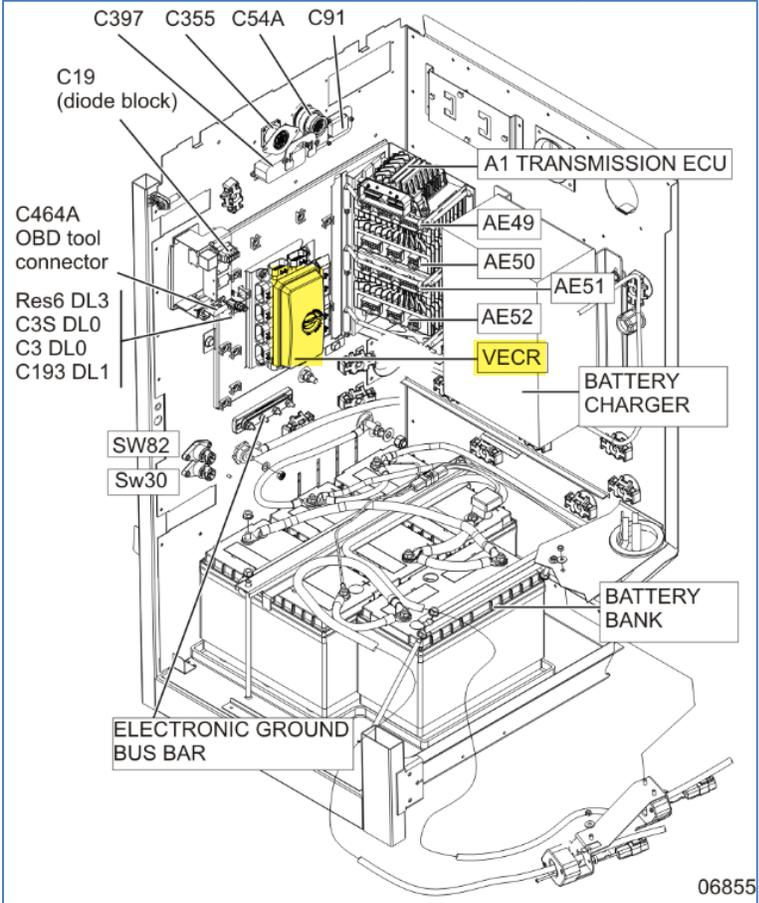
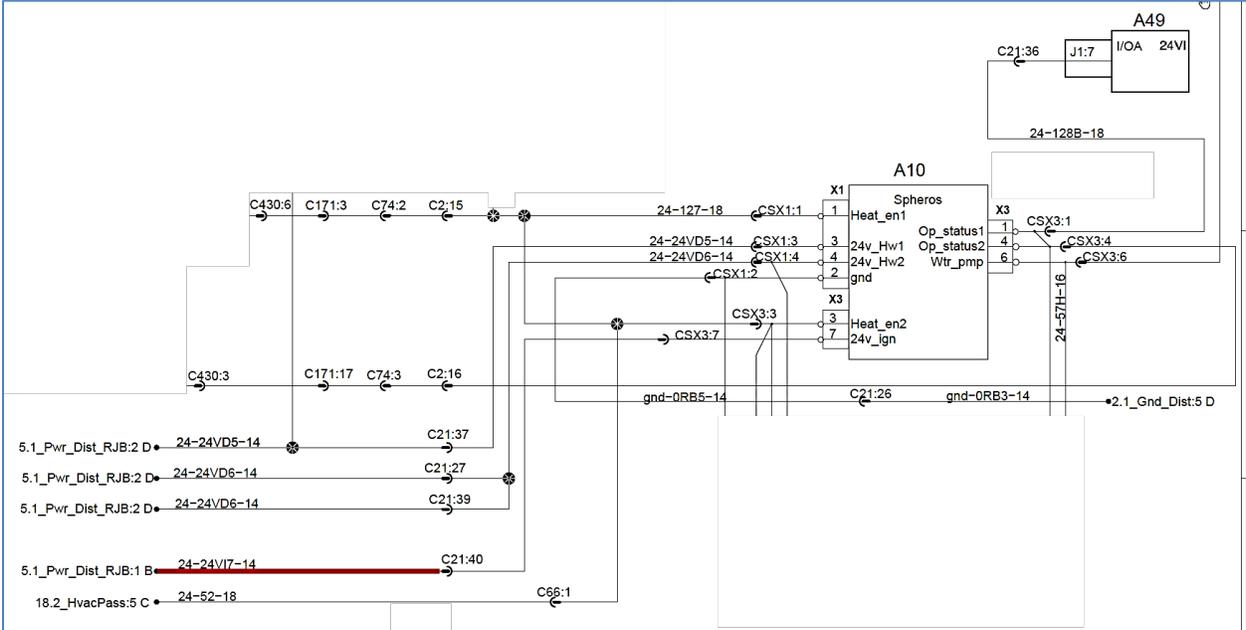

FIGURE 48
FIGURE 49
2. In the main power compartment, remove circuit 24Vi7 routed between connector C21 pin 40 cavity and the VECR connector 2 (red) pin A cavity or pin E depending on the model year (Figure 48 & Figure 49). Discard that section of the circuit.